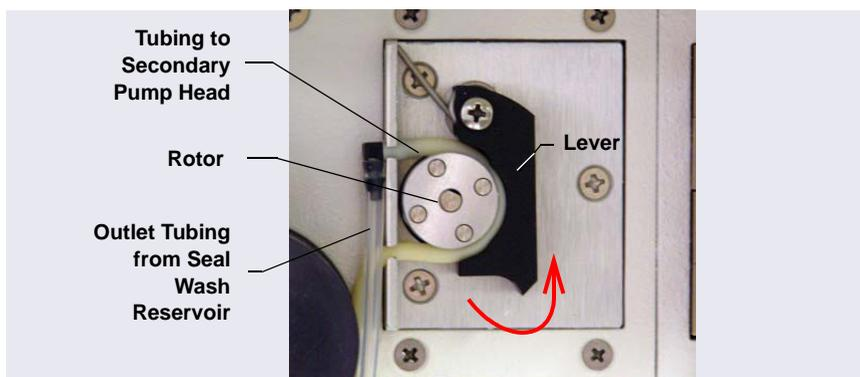

Figure 3-34. Peristaltic (Piston Seal Wash) Pump
4. Check that the tubing is engaged in the peristaltic pump (see Figure 3-34). If it is not, lift the lever on the peristaltic pump to the right, insert the tubing neatly between the lever and the rotor, and release the lever to secure the tubing.